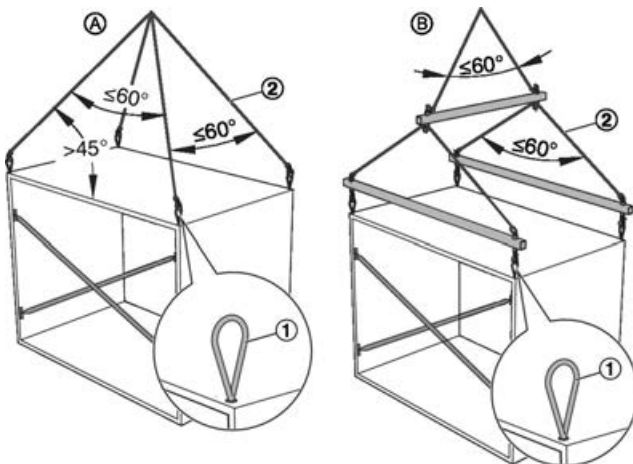

Fig. 6: Using lifting eyes for moving units with a crane
- (A) Moving units with ropes/chains
- (B) Moving units with a spreader beam
- (1) Lifting eye
- (2) Slings
- ▶ Insert all lifting eyes (Fig. 6 /1) completely into the threaded holes.
- ▶ Hook the slings (Fig. 6 /2) into the lifting eyes.